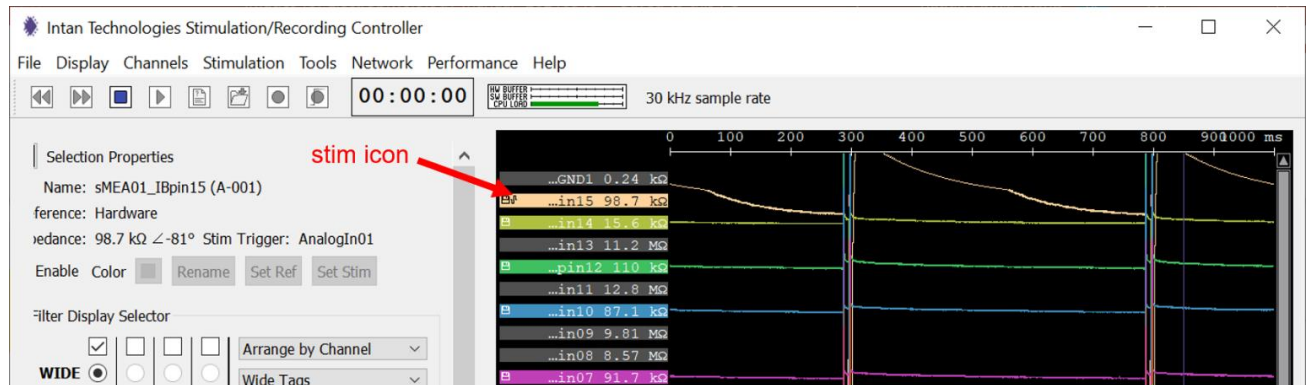

Fig. 84: Stimulation run with "sMEA01_IBpin15 (A-001)" set as the stimulating electrode.
- 13) **Fig. 84** below shows a snapshot of the GUI running with channel “sMEA01_IBpin15 (A-001)” set as the stimulating channel. With the channel selected, the stim trigger is displayed as “AnalogIn01” under Selection Properties. In addition, the channel tag displays a pulse wave icon to label this channel as a stimulating channel.